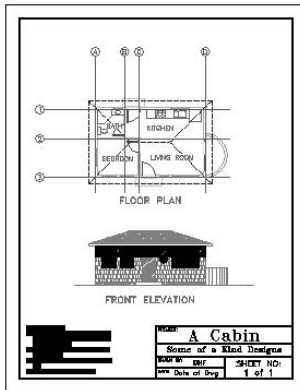

FIGURE 10.40: The full drawing
5. Zoom to Extents, and then zoom out a little to a view of the whole drawing (see Figure 10.40). You won't be able to read the Mtext at this magnification, but it will look fine when you print your drawing.